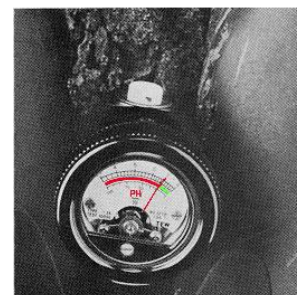

Fig. 3
3. Fill the soil holder with the soil under test and pack the soil so as to be sure that the complete electrode surface will be in contact with it. Insert the instrument into the soil until the silver-colored electrodes are completely covered with soil. Then turn the instrument two or three times about its longitudinal axis to ensure good contact between soil and electrodes (fig.3). Black earth, clay, loam etc. should have a moisture content (shown on the meter) between 50 and 70%. If the soil is too wet, the water should be pressed out until the moisture content is at a minimum 50%. Humus rich soil may have higher moisture content, even exceeding 100% as is often the case. If the soil is too dry, the pH cannot be measured; in that case it should first be moistened with distilled water; readings can then be taken after about 2 hours.